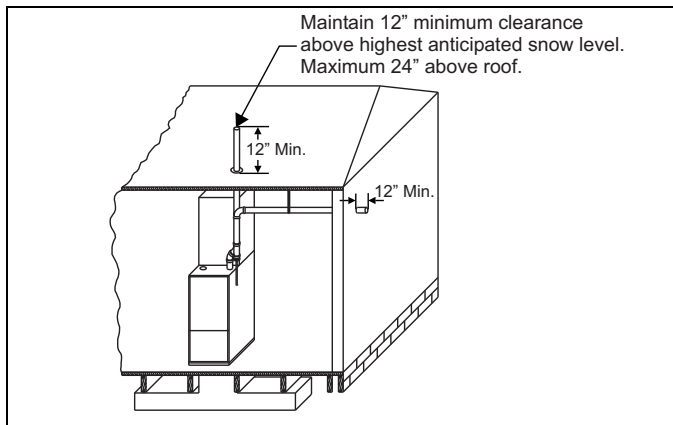
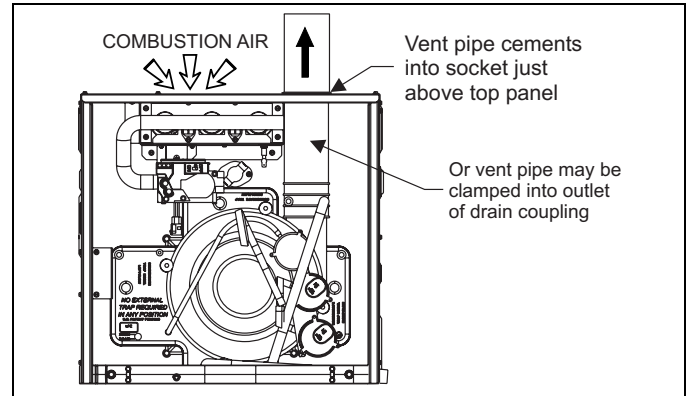

FIGURE 30: Termination Configuration - 1 Pipe
FIGURE 36: Combustion Airflow Path Through The Furnace Casing
The combustion air side of the single pipe configuration shown in Figure 30 is referred to in these instructions as ambient combustion air supply. Follow the instructions for ambient combustion air installations, paying particular attention to the section on air source from inside the building. The vent for a single pipe system must be installed as specified in the venting section of these instructions with the vent terminating as shown in Figure 30. Each furnace must have a separate vent pipe. Under NO circumstances can the two vent pipes be tied together.
2. **AMBIENT COMBUSTION AIR:** Combustion air is supplied from the area surrounding the furnace through openings in the furnace casing. The combustion air and the vent pipes are not terminated in the same atmospheric zone. Refer to Figure 30 for vent terminations. Refer to "Ambient Combustion Air Supply" for proper installation. Refer to Figure 36.